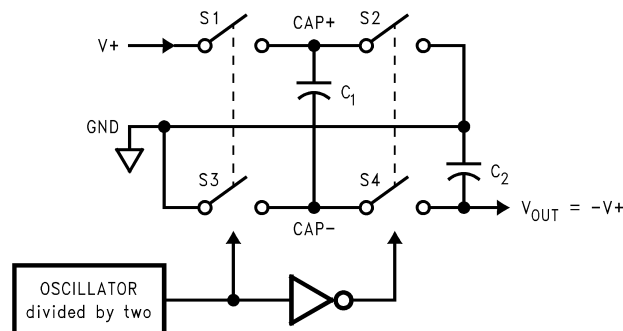

Figure 10. Voltage Inverting Principle
The LM2664 contains four large CMOS switches which are switched in a sequence to invert the input supply voltage. Energy transfer and storage are provided by external capacitors. Figure 10 illustrates the voltage conversion scheme. When S_1 and S_3 are closed, C_1 charges to the supply voltage V_+ . During this time interval, switches S_2 and S_4 are open. In the second time interval, S_1 and S_3 are open; at the same time, S_2 and S_4 are closed, C_1 is charging C_2 . After a number of cycles, the voltage across C_2 will be pumped to V_+ . Since the anode of C_2 is connected to ground, the output at the cathode of C_2 equals $-(V_+)$ when there is no load current. The output voltage drop when a load is added is determined by the parasitic resistance ($R_{ds(on)}$ of the MOSFET switches and the ESR of the capacitors) and the charge transfer loss between capacitors. Details will be discussed in the following application information section.
- R_{SW} is the sum of the ON resistance of the internal MOSFET switches shown in Figure 10. (1)